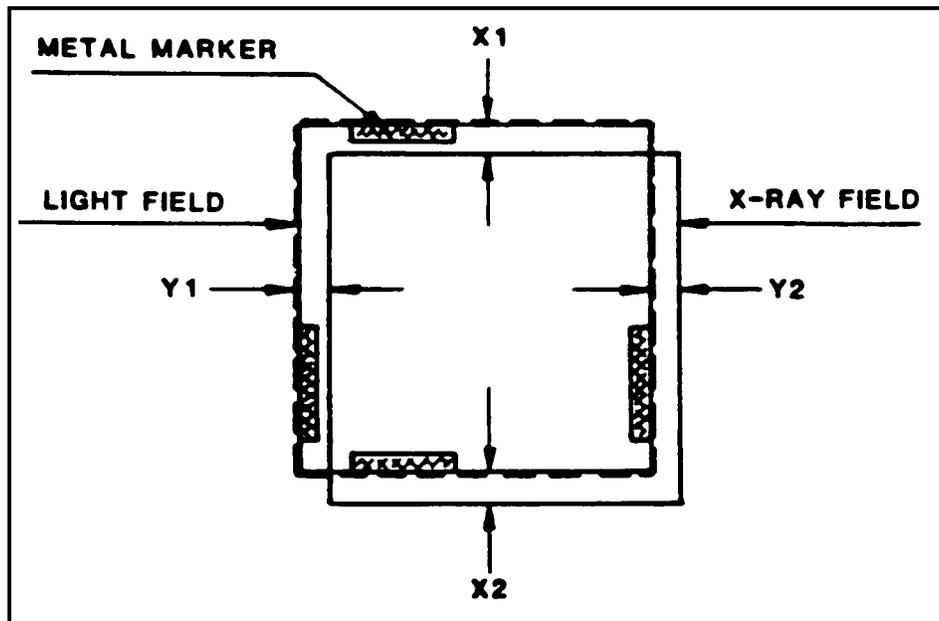

Figure 3-82
(1) Place the X-ray source-to-table distance at 40" SID and lock it in place.
(2) Locate a cassette on the table top and accurately center the cassette to the light field. Mark the position of the cassette on the table top.
(3) Manually reduce the size of the X-ray field to the next smaller film size.
(4) Identify the light-field edges and carefully mark the edges by placing metal markers as illustrated below. (See Figure 3-82.)
(5) Expose the film to a density of 1.0 and develop it.
(6) Carefully identify the X-ray field edges and measure the difference between the X-ray field edges and the light field edges.
(a) The sum of long axis difference ( $X1 + X2$ ) shall not exceed 2% of the SID, and the sum of the cross axis difference shall not exceed 2% of the SID. (See Figure 3-82.)
(2) If the centering light-line is off-center to the correctly centered light field or exhibits a rainbow of colors along one edge, loosen the two screws securing the prism/slit bracket. (See Figure 3-82.)
(3) Use a pair of long-nose pliers to move the bracket as required to center the light-line with the light field and mark on the handle of the cassette tray.
- (4) Tighten the screws and replace the lamp housing cover.